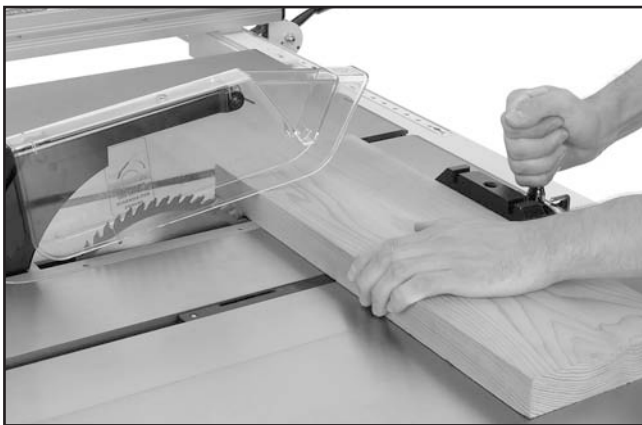

Figure 44. Typical crosscutting operation.
7. Hold the workpiece firmly against the face of the miter gauge (**Figure 44**) and ease it through the blade until the workpiece is completely past the saw blade.